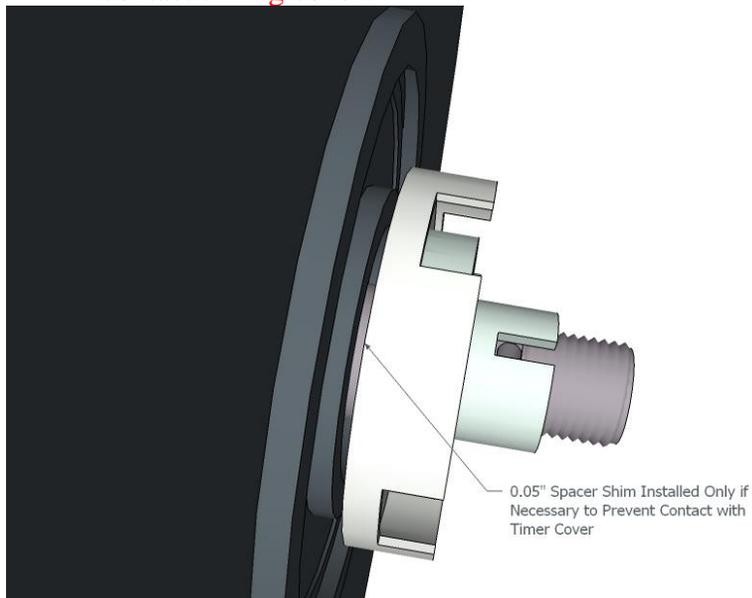

Figure 2. Only install shim if Vane Assembly contacts timing cover
8. Turn the Vane Actuator Assembly back and forth while pushing it towards the engine to verify the Vane Assembly does not rub against the timing cover. **Important!** Install the 0.050" spacer shim if the Vane Actuator Assembly rubs against the timing gear cover, Figure 2. **Do NOT** install the spacer shim if the Vane Actuator Assembly does not contact timing cover!